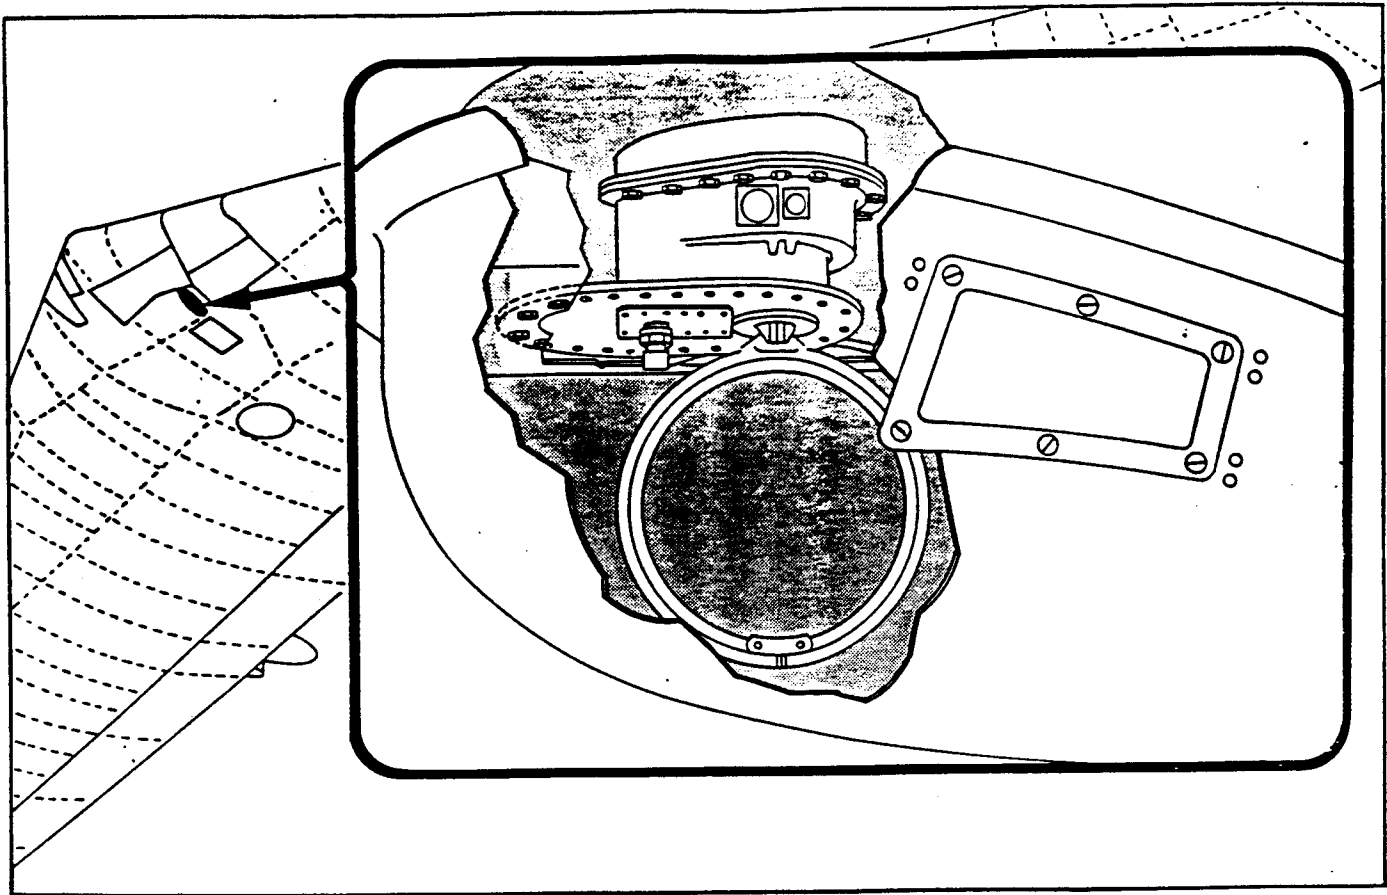

Figure 21. Radio Compass Loop Antenna
6. LOOP ANTENNA LP-31. (See figure 21.)